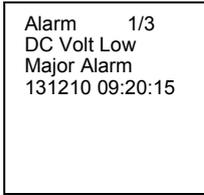

Fig. 2-7 Active alarm information screen
2. If there is a active alarm in the system, the screen will display the information shown in Fig. 2-7.